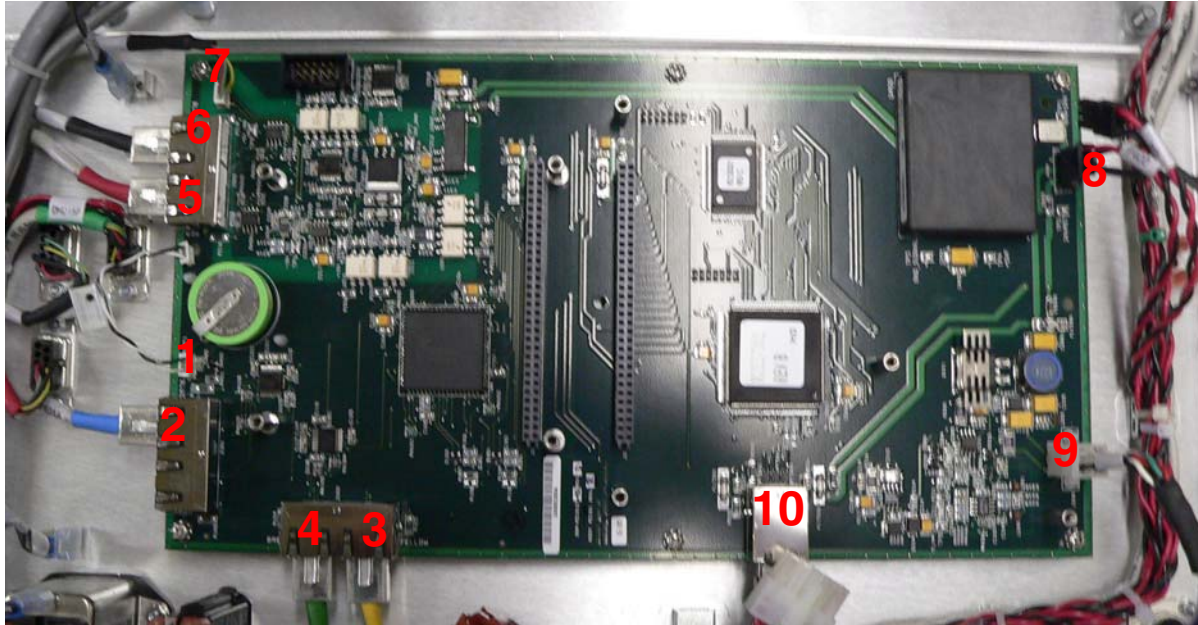

Figure B-36 Mother Board Wiring
7. Disconnect the wiring as follows (Figure B-36):
9. Remove the board and mount the new board with the six (6) Philipps screws.
10. Reconnect the wiring as in (Figure B-36 on page B-26).